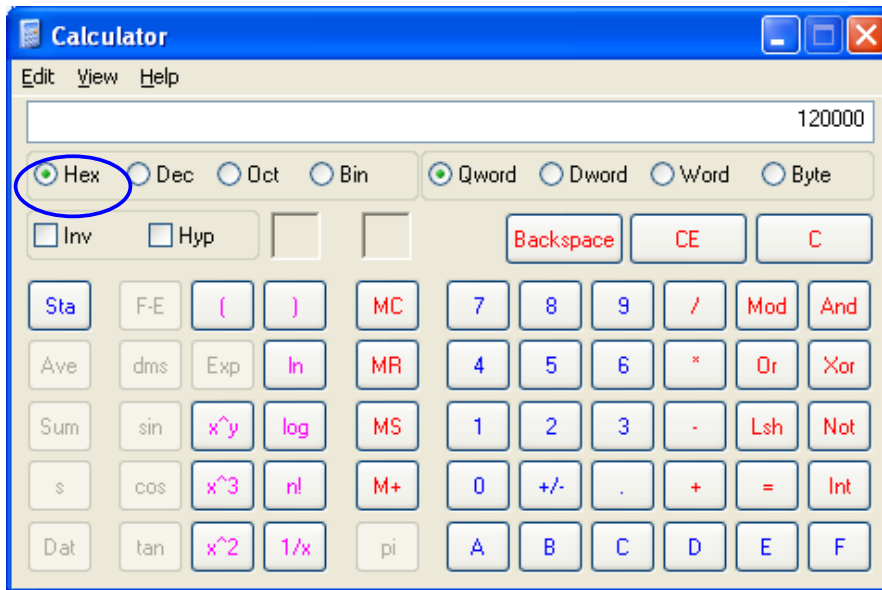

Figure 135
- The outcome in Hexadecimal will be 120000 (See Figure 135)